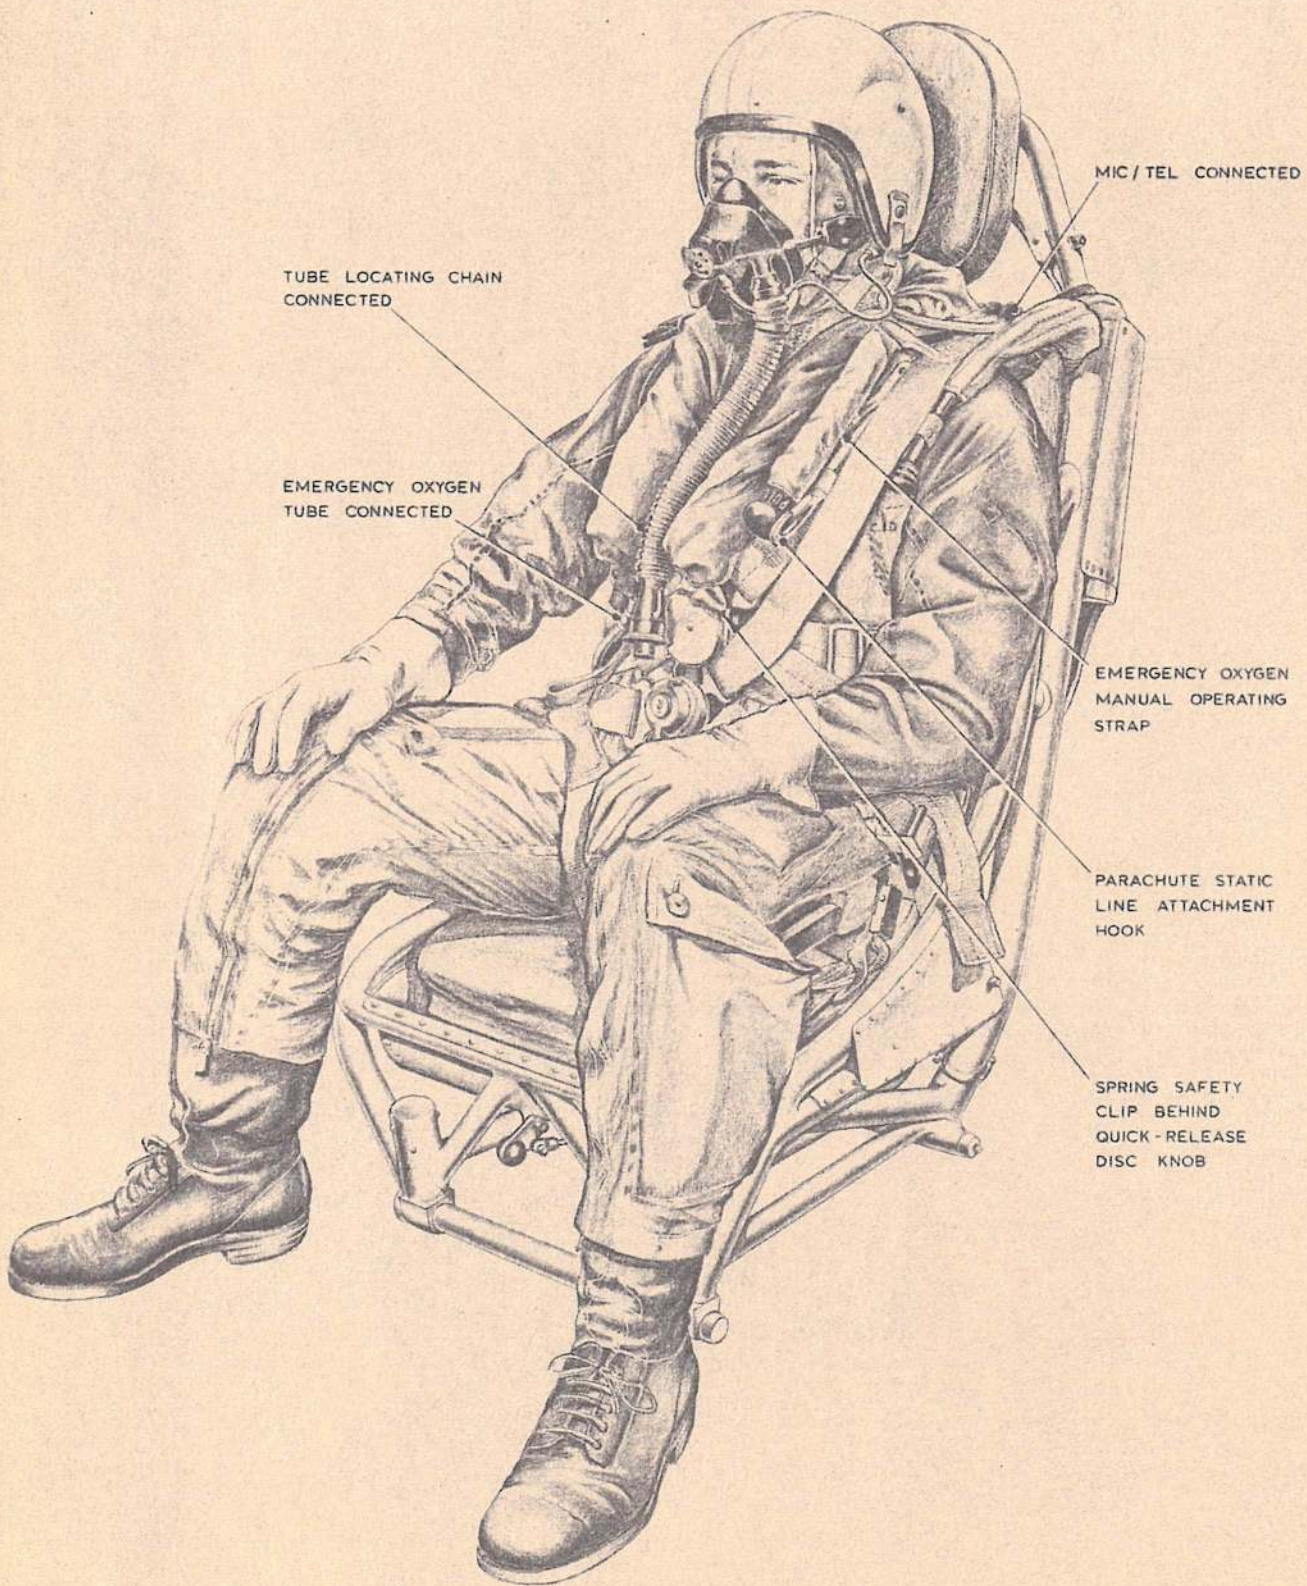

Fig. 8. The static seat occupied
22. Strapping-in procedure for each rear crew member is the same and is as follows; refer to fig. 8 for detail: -